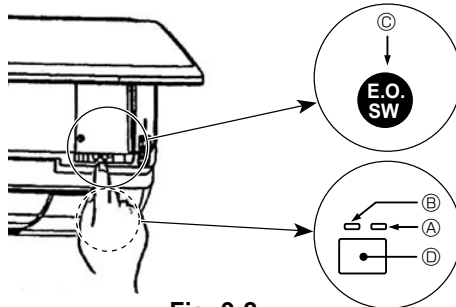

Fig. 9-2
- [Fig.9-2] A DEFROST/STAND BY lamp (Orange)